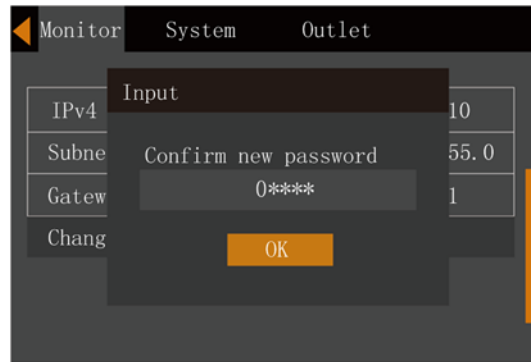

Figure 5-28 Confirming the new password
5. After entering the new password, press the  key to confirm; at this point the system requests the user to confirm the new password by entering it again, see Figure 5-28.